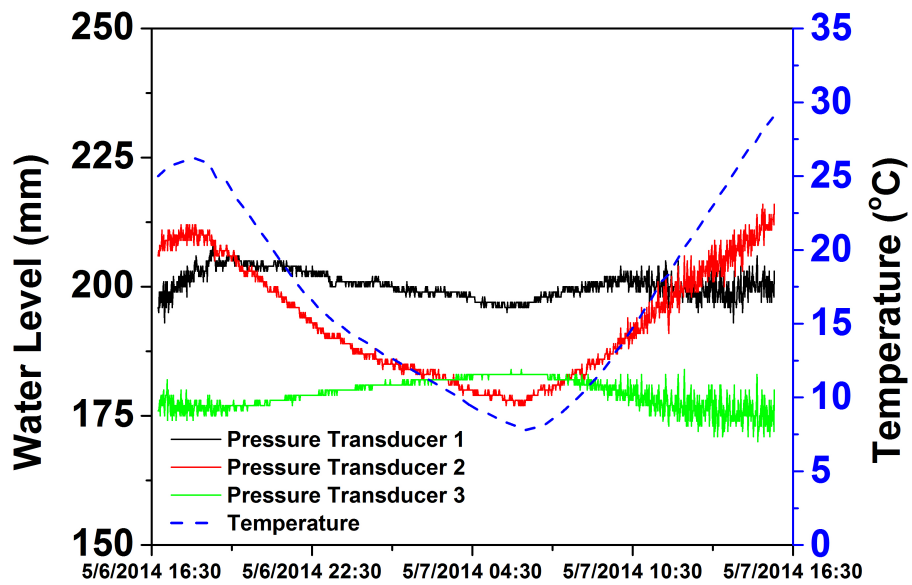
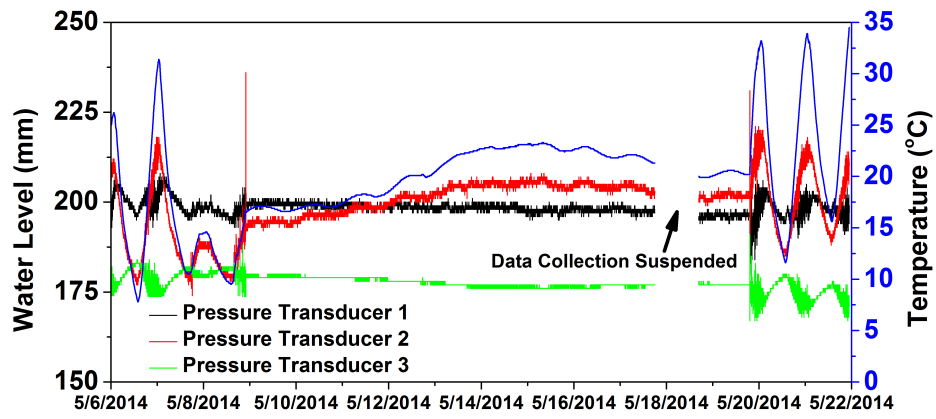

Fig. 2. A revised Figure 2.
Fig. 3. A revised Figure 6.
Minor problems: page 4, 2.1, 5, What does it mean the abbreviation CTD? page 4, 2.1, 10, What can be the situation when the cable length is significantly shorter than 10m? (because for surface water measurements this is the general case)? page 5, 2.2, 8, 30 or 40 cm (on page 13) What is the depth of burial? page 5, 2.2, 17, Where is located the EM50 datalogger? page 10, equation (14) to my mind L^2 is miss from the upper part of the division. page 14, 4, 1mm change to 1mm/day page 21 - Figure 2 and page 25 - Figure 6, The scale of water level vertical axis of the graph would be better 150-250.
(8) page 21 - Figure 2 and page 25 - Figure 6, The scale of water level vertical axis of the graph would be better 150-250.
Response: We modified figure 2 and figure 6 as the reviewer suggested. Please see Figure.2 and Figure.3 in this file.